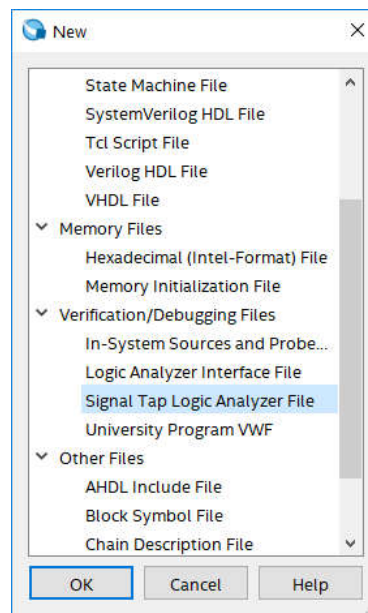

Figure 2. Need to prepare a new file.
1. Open the SignalTap window by selecting **File > New**, which gives the window shown in Figure 2. Choose **SignalTap Logic Analyzer File** and click OK.